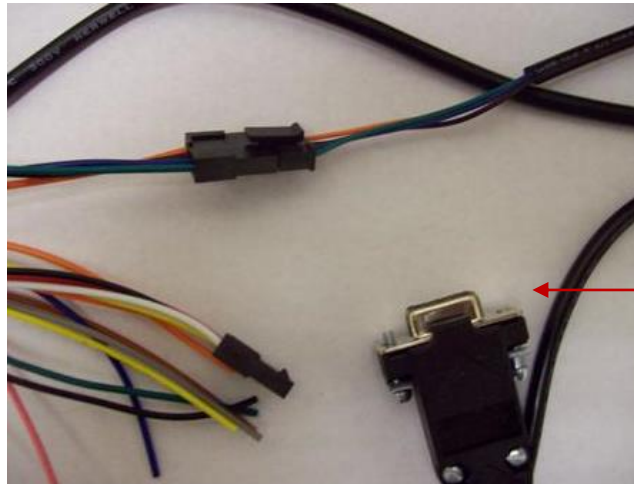

Figure 35: LMU-26xx DB9 Serial Connection
1. Connect the DB9 Cable to the LMU-26xx AUX1 serial port, and then connect the DB9 serial connector to an available serial port on the laptop (Figure 35).